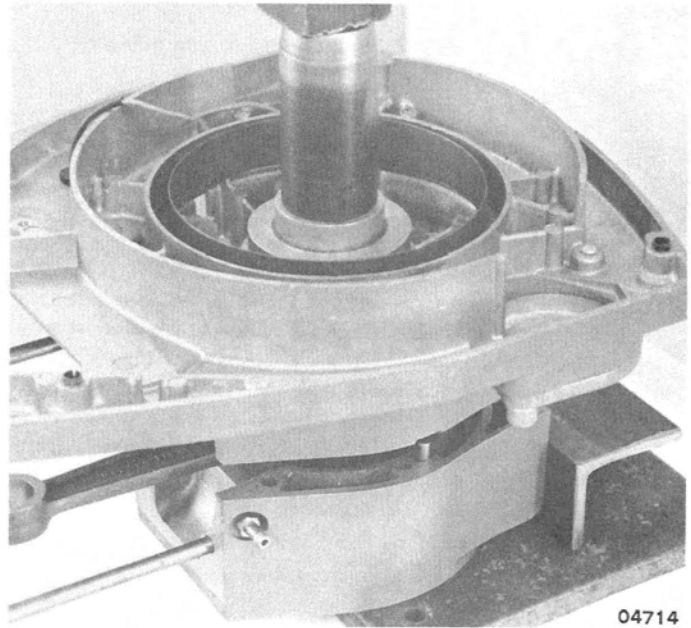

Figure 7. Crankcase Reassembly
7. Heat bearing boss in fan side of crankcase (210°-280°). Quickly press onto crankshaft while aligning dowel pins in crankcase halves. (Figure 7)